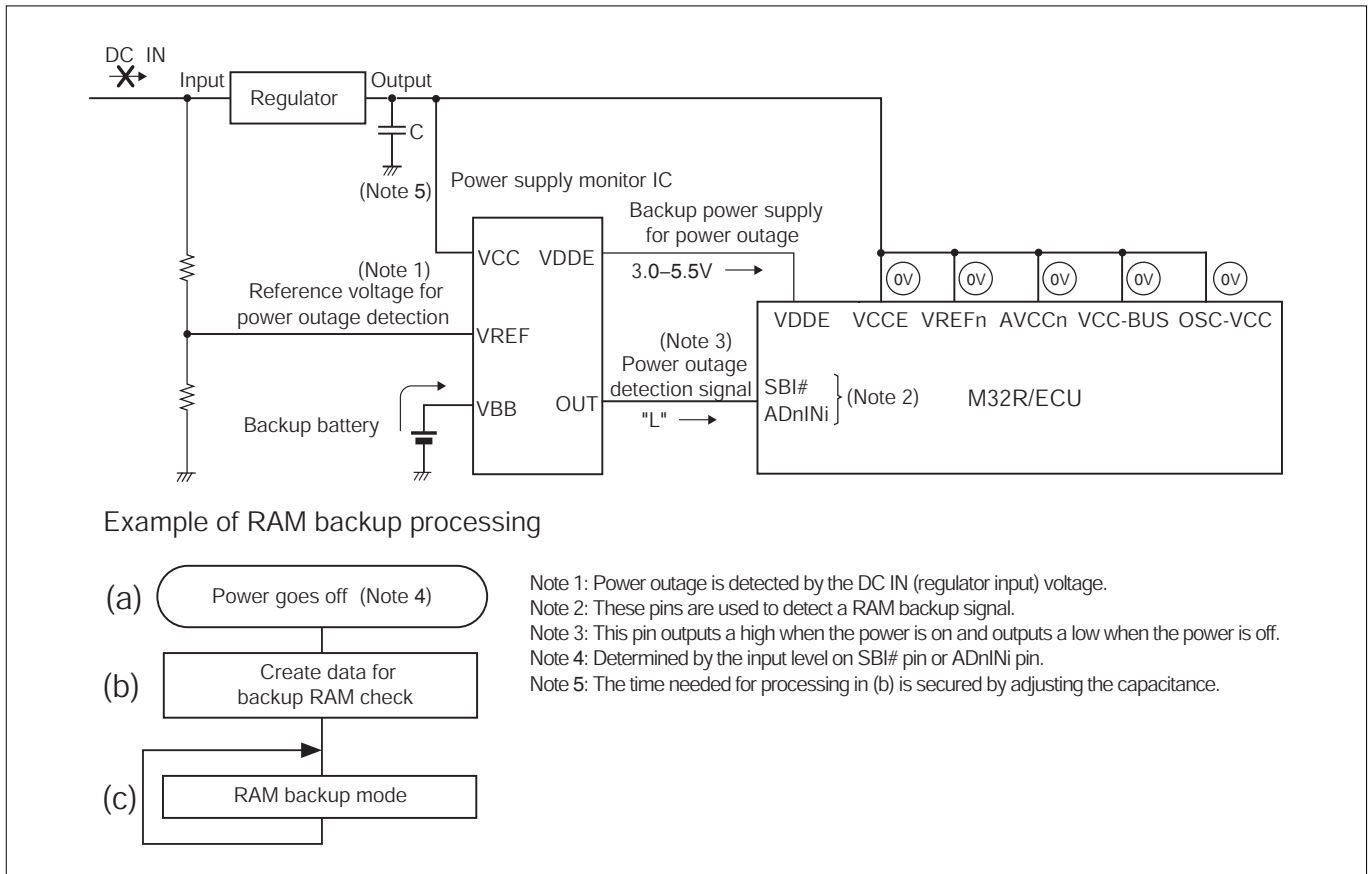

Figure 17.2.3 Power Outage RAM Backup State
Figure 17.2.3 shows the power outage RAM backup state of the M32R/ECU. When the power supply goes off, the power supply monitor IC starts feeding current from the backup battery to the M32R/ECU. Also, the power supply monitor IC's power outage detection pin outputs a low, causing the SBI# pin or ADnINi pin to go low, which generates a RAM backup signal ((a) in Figure 17.2.3). Determination of whether the power is off must be made with respect to the DC IN (regulator input) voltage in order to allow for a software processing time at power outage.
- (1) Create data for RAM check to verify whether the RAM data has been retained normally after returning from RAM backup mode to normal mode ((b) in Figure 17.2.3).
If the power supply to VCC goes off after making above setting, the VDDE pin voltage goes to 3.0–5.5 V and all other pin voltages drop to 0 V, and the M32R/ECU is thereby placed in RAM backup mode ((c) in Figure 17.2.3).